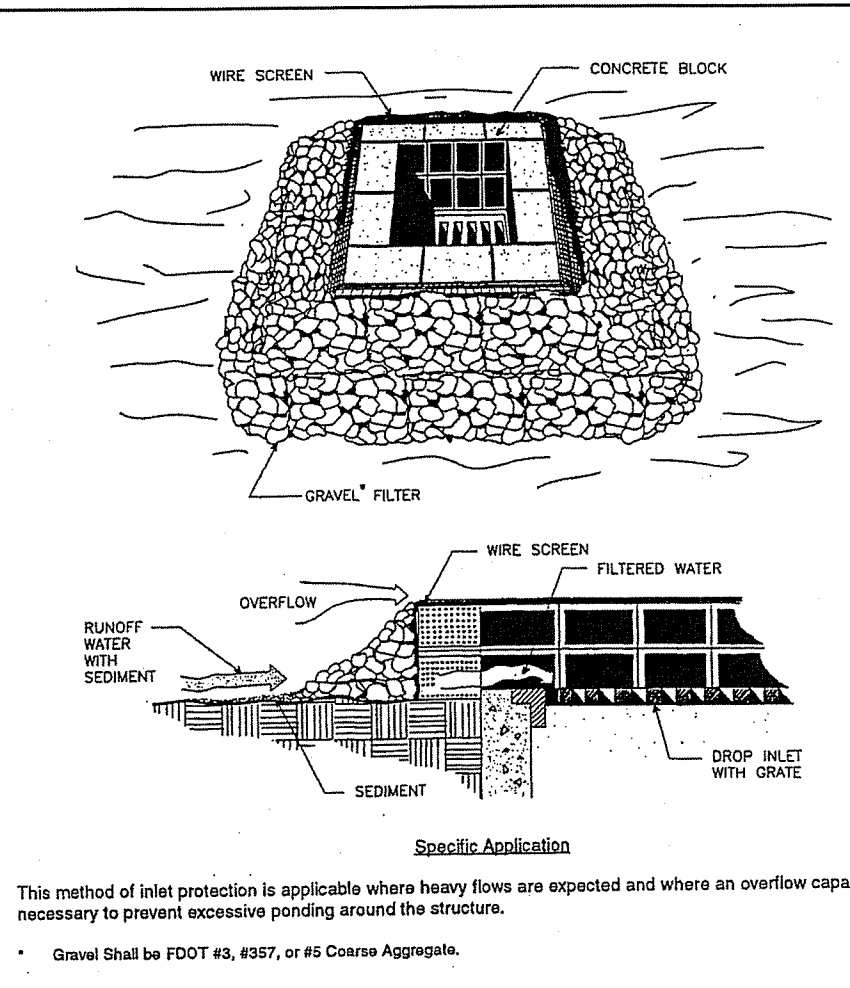

Figure 4.5d. Block and Gravel Drop Inlet Sediment Filter
2. Wire mesh shall be placed over the outside vertical face (webbing) of the concrete blocks to prevent stone from being washed through the holes in the blocks. Hardware cloth or comparable wire mesh with 1/2 inch (13 mm) openings shall be used (see Figure 4.5d).
3. Stone shall be piled against the wire to the top of the block barrier. Suitable coarse aggregate shall be used (see Figure 4.5d).